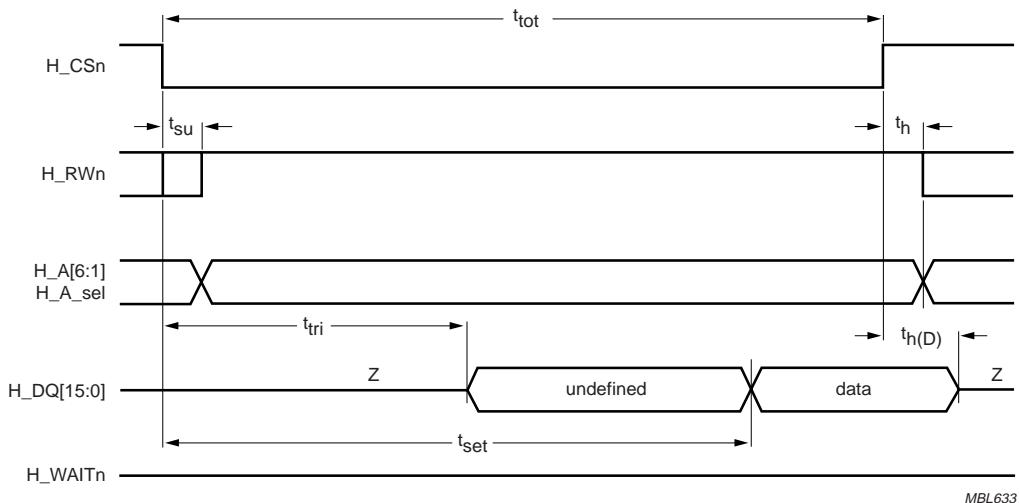

Fig 10. Timing diagram of reading registers with no wait cycles.
- [1] When the SAA7893HL SAD16 interface is programmed to generate always a H_WAIT signal of at least 7 sys_clk cycles, then it is no longer required that the minimum time of t_{tot} is 14 sys_clk cycles. The data at the H_DQ output is always available at the negative edge of the H_WAIT signal. The host can deactivate the H_CS signal after the negative edge of the H_WAIT signal and when it has read the data at the H_DQ lines. When a H_WAIT signal is always generated then the timing diagrams in Figure 9 and Figure 10 are no longer applicable.